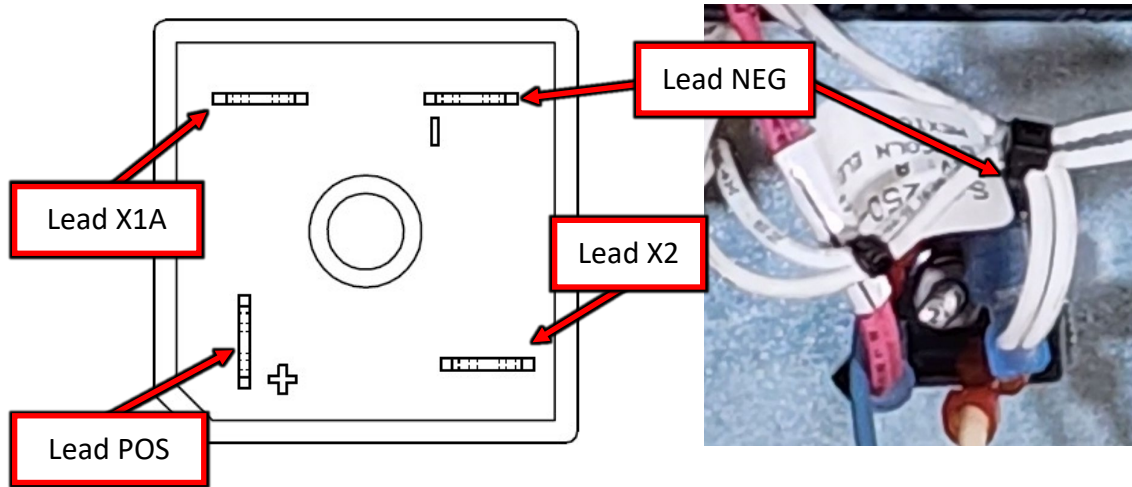

Figure F.2
A.2. Label and disconnect the following connections, refer to Figure F.2.
A.3. Perform the static measurements in Test Table 1, refer to Figure F.2 for test point locations. NOTE: MEASUREMENTS ARE MADE ON THE TERMINALS NOT THE REMOVED LEADS.